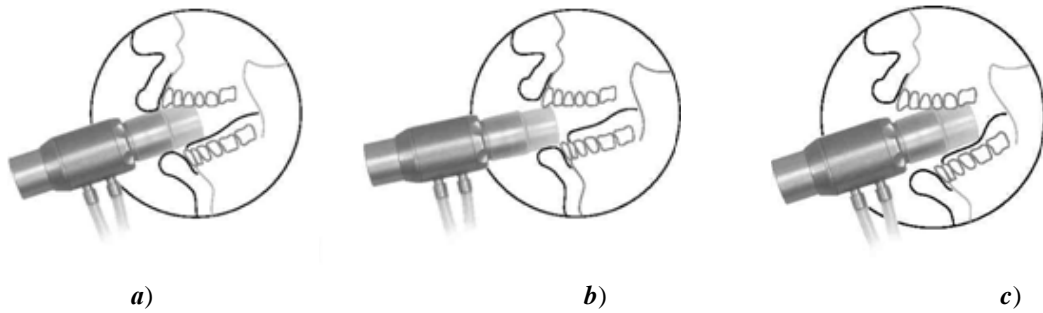

Figure. 4 – Correct and incorrect position of mouthpiece:
3.2.5 The patient should be tightly embrace the mouthpiece with his lips so that your teeth and tongue not impede the free flow of air (Figure 4).